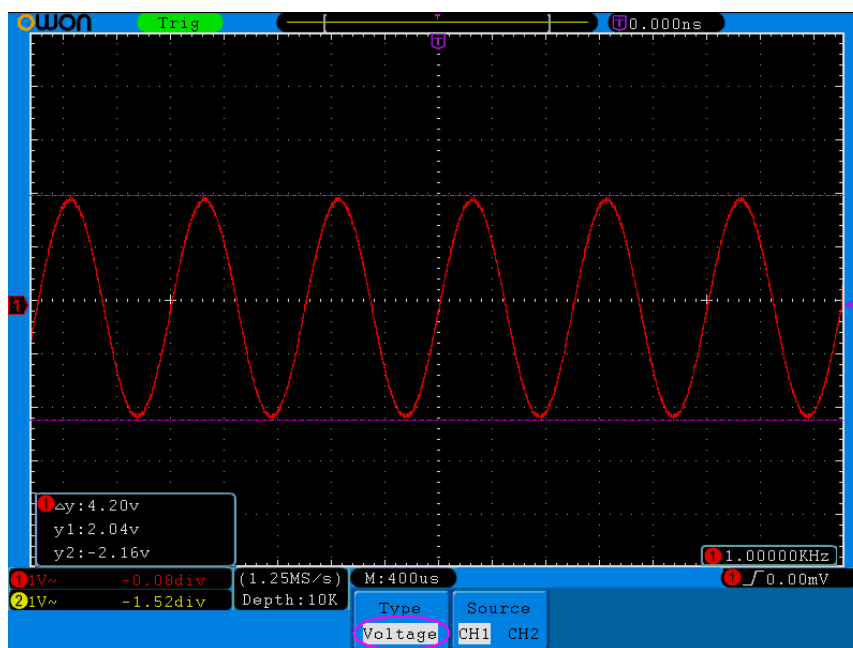

Figure 5-63 Waveform of Voltage Cursor Measurement
4. According to the measured waveform, adjust the positions of Cursor1 and Cursor2 by turning the **VERTICAL POSITION** knob of CH1 and CH2. Cursor increment window at the left bottom of waveform shows absolute value of D-value of cursor 1 and cursor 2 and the present position of the two cursors. (See *Figure 5-63*).